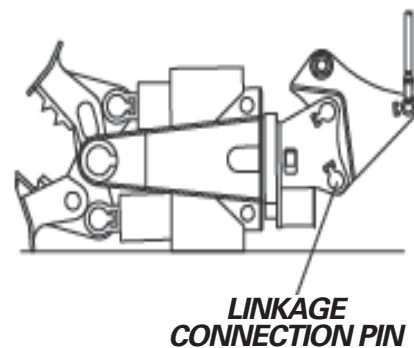

FIGURE 3-16
6. Once the bores are aligned, the linkage connection pin may be installed (figure 3-16).